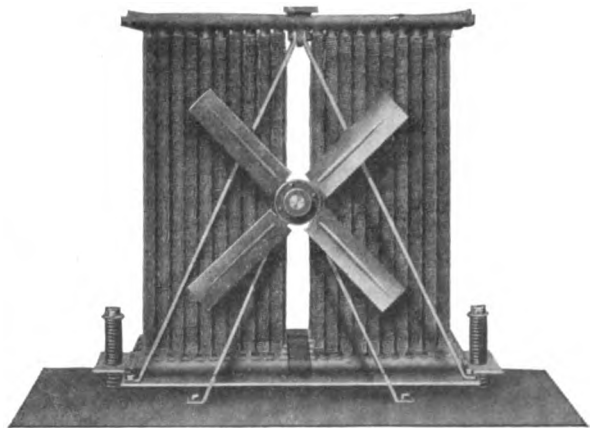

Fig. 29. Front View Radiator.
- 197 —** Cooling of the engine is effected by the circulation of water by a centrifugal pump drawing its supply past a valve from the water tank, thence into the bottom of the cylinders, out the cylinder heads and through a large vertical finned-tube radiator and thence returned to the water tank. The radiator is spring mounted to reduce vibration. Fig 29 shows a front view of the radiator assembly.